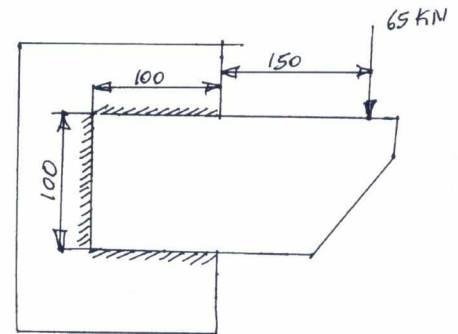

Fig.Q7(a)
- 7 a. Determine the size of the weld required for an eccentrically loaded weld as shown in Fig.Q7(a). Assume steady load and fillet weld. (08 Marks)